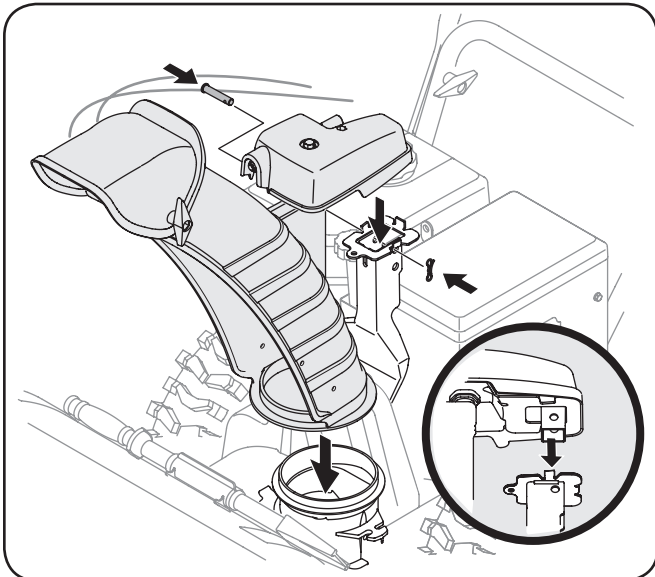

Figure 3-4
4. Place chute assembly onto chute base and secure chute control assembly to chute support bracket with clevis pin and cotter pin removed earlier. See Figure 3-4.